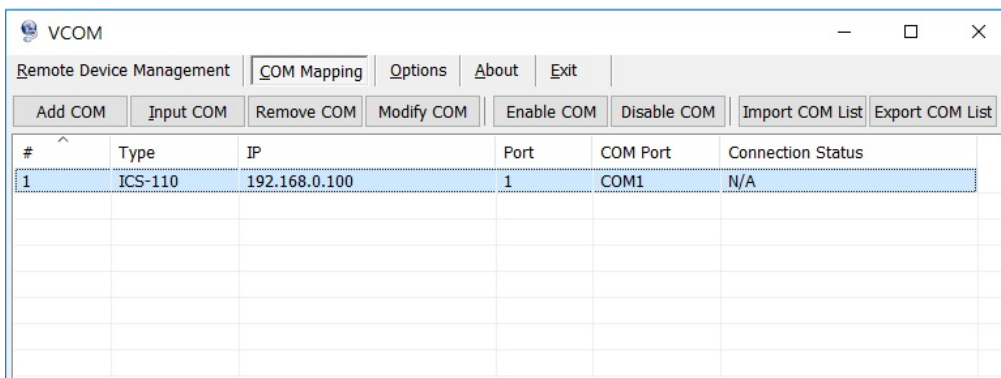

Figure 5-3-3 : Virtual COM Ports
3. Virtual com ports are generated as shown in Figure 5-3-3.